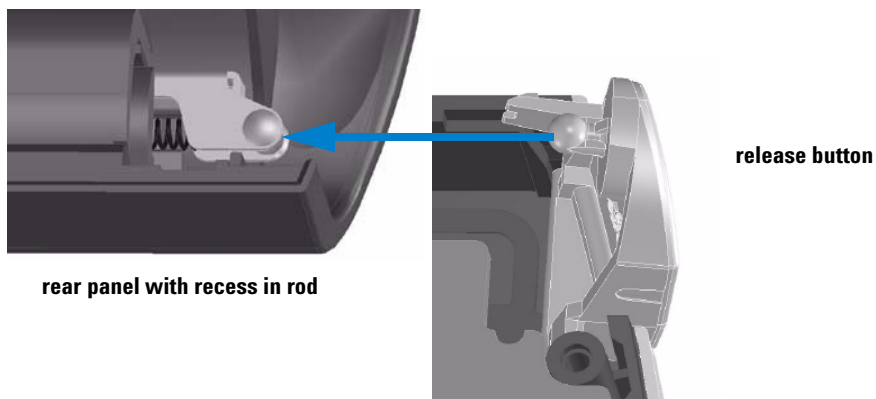

Figure 119 Pin of release button fits into the recess of the rod (OLD rear panel design)
- 10 Carefully replace the rear panel and fit the release button pin into the recess on one end of the connecting rod of the rear panel, see Figure 119.